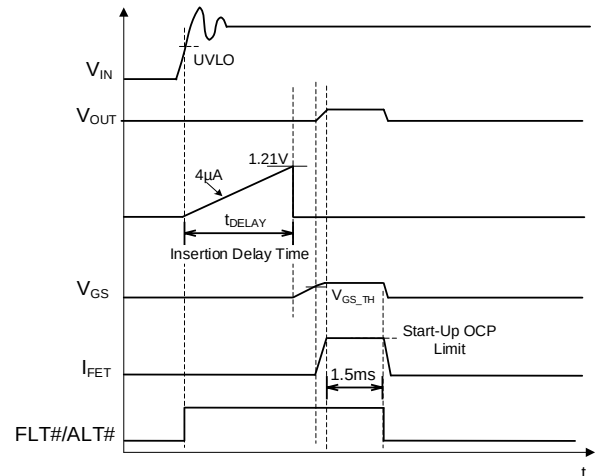

Figure 4: Start-Up OCP Behavior with Latch-Off Mode
When a hard short occurs, if V_{IN} drops below the under-voltage lockout (UVLO) threshold quickly, the MP5024 triggers an under-voltage (UV) fault. The MP5024 shuts down immediately, regardless of whether the short-circuit current limit has been reached. If V_{IN} rises above the V_{IN} rising threshold again, the MP5024 retries while the short-circuit condition is present. The behavior is the same as start-up OCP (see Figure 4 on page 17).